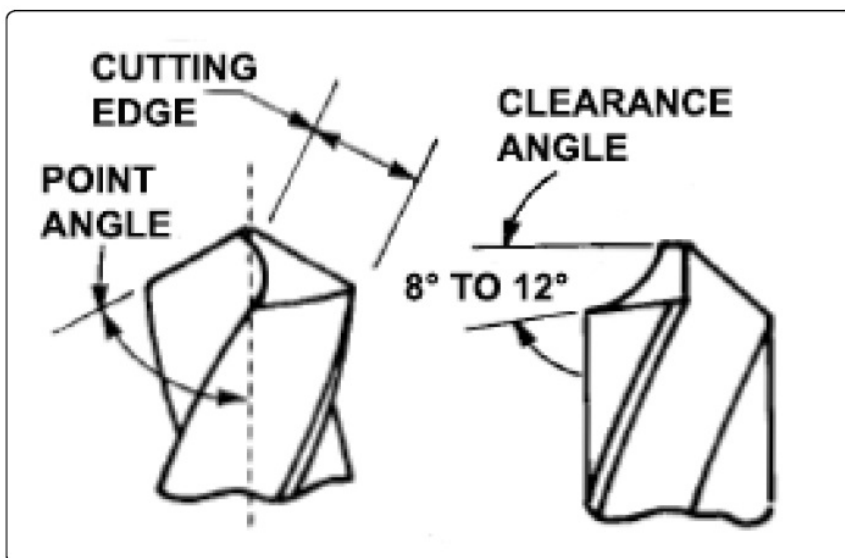

fig.5
5.3.5. There needs to be a definite clearance angle see fig.5.